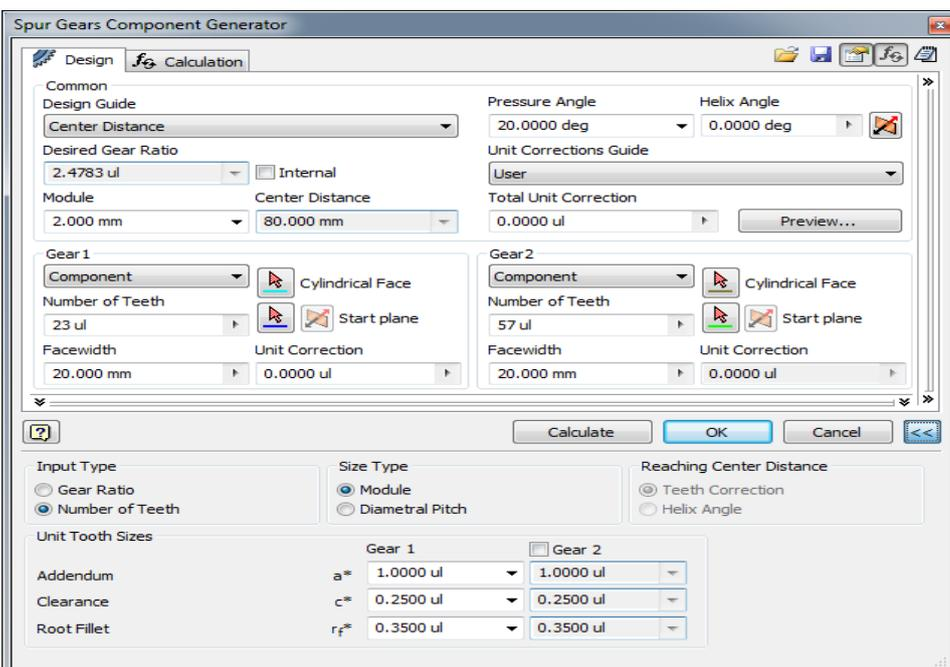
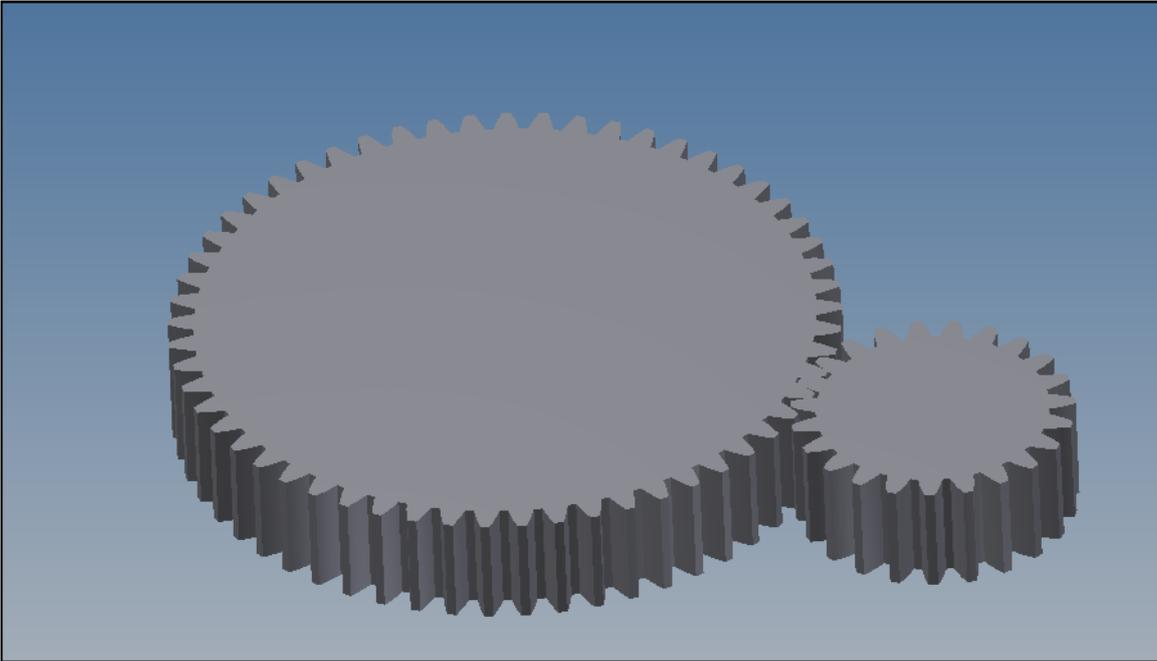

FIG 3.0
FIG 4.0
**Gears.** Use the default values shown below in Fig 3.0 to create a realistic model of Spur Gears (Fig 4.0 over page)
Fig 4.0 shows an example of two meshed spurs gears.